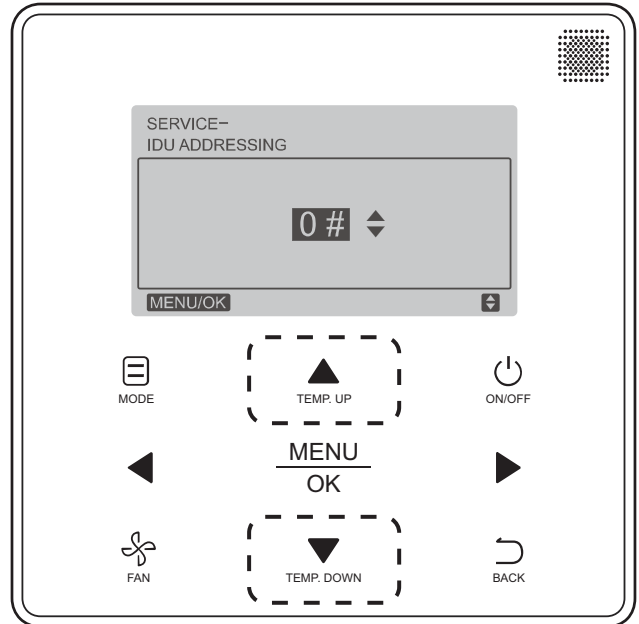

Fig. 39 —Programmable Controller Setting IDU Address
3. Press **TEMP. UP** or **TEMP. DOWN** to choose the address you want to set as shown in Fig. 39. Press **MENU/OK** to send this address to the IDU.